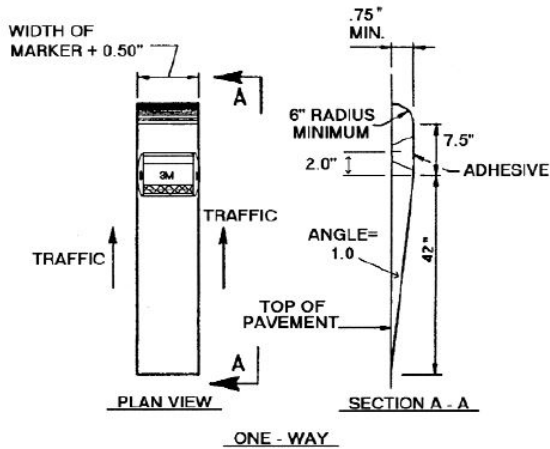

Figure 4. One Way Groove Details
- **Groove Width:** 4.5 in. (11.4 cm) +/- 0.125 in. (0.3 cm) tolerance. (See Figures 4 and 5.)